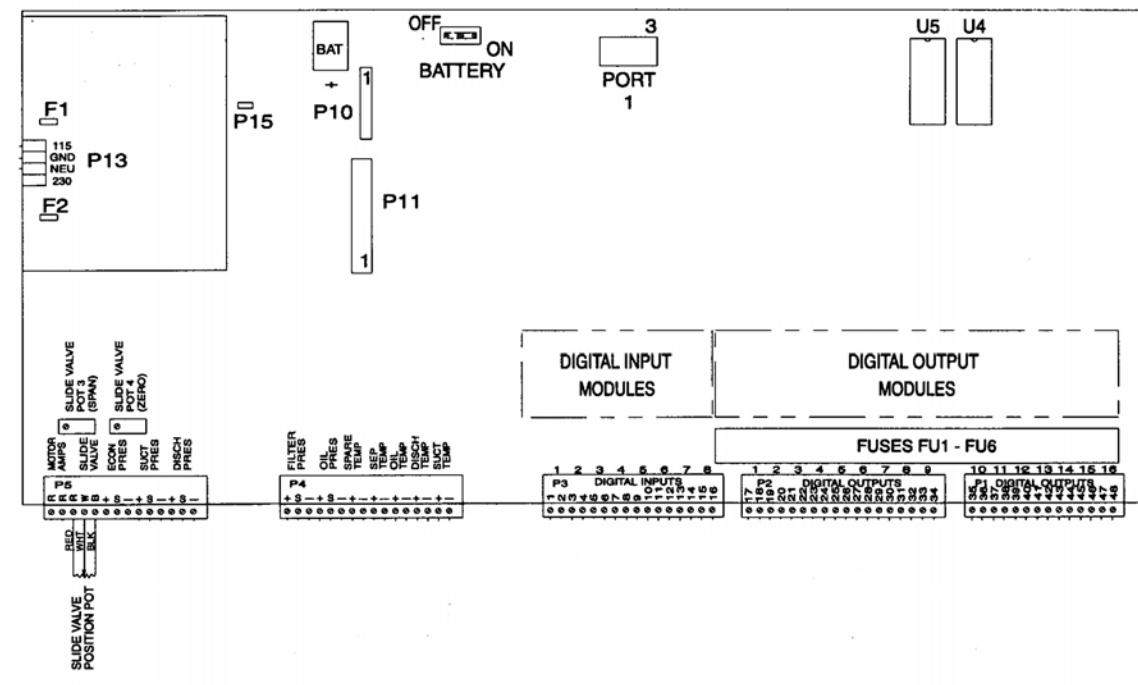

Figure 1
Step 1: Move the program chips from the original to the replacement board. Program chips are compatible for all revisions of the circuit board. This is most easily done with both boards removed from the control cabinet. The chips are removed from U4 and U5 (see **Figure 1**) by using a small screw driver to gently pry them from the socket. These parts are static sensitive so **DO NOT HANDLE THEM BY THE LEADS!** The parts are then installed in the same positions in the new board. Make sure the leads are straight then gently position the parts and press them into place making sure not to bend the pins. **GO SLOW!**
The potentiometers that make the adjustment are located in the lower left corner of the control as shown in the **Figure 1**.